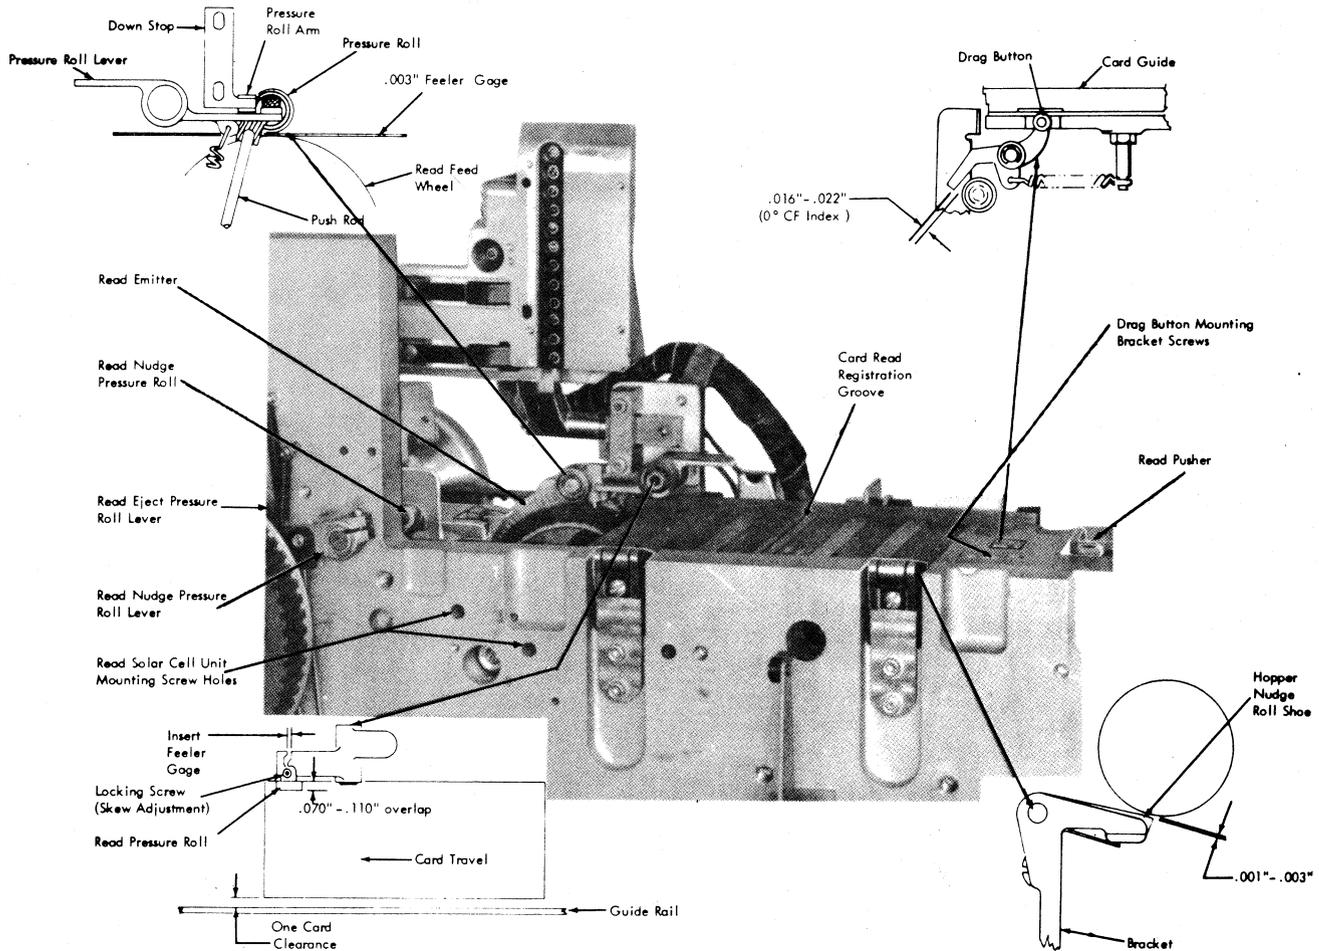

Figure 4-8. Preread and Read Station Adjustments
Adjust hopper nudge roll shoe brackets for .001" to .003" gap between the shoes and the hopper nudge roll (Figure 4-8). Check for a minimum of 2.5 pound pull-out force from each roll.
Refer to Figure 4-8 for pusher location.
At 0° on the CF index, check that drag button contacts pad on under surface of card guide, and the drag button arm has .016" to .022" clearance to the roller on the read pusher arm (Figure 4-8). Drag button must not contact sides of clearance hole. To adjust, position drag button mounting bracket.
1. With the CF clutch latched and a .003" feeler gage between pressure roll and feed wheel, adjust down stop to be in contact with pressure roll arm (Figure 4-8). There should be
6. To provide .070" to .110" overlap of pressure roll on card, loosen pressure roll pivot stud and insert the proper number of shims (P/N 627576). See Figure 4-8.
On some machines, the pressure roll locking screw (Figure 4-8) has been factory sealed. Skew adjustment on these machines should not be necessary in the field.
3. Adjust read pressure roll, by means of its locking screw, so the card will move against the guide rail within 4" to 6" of card travel. A feeler gage can be inserted, as indicated in Figure 4-8 to facilitate adjustment.